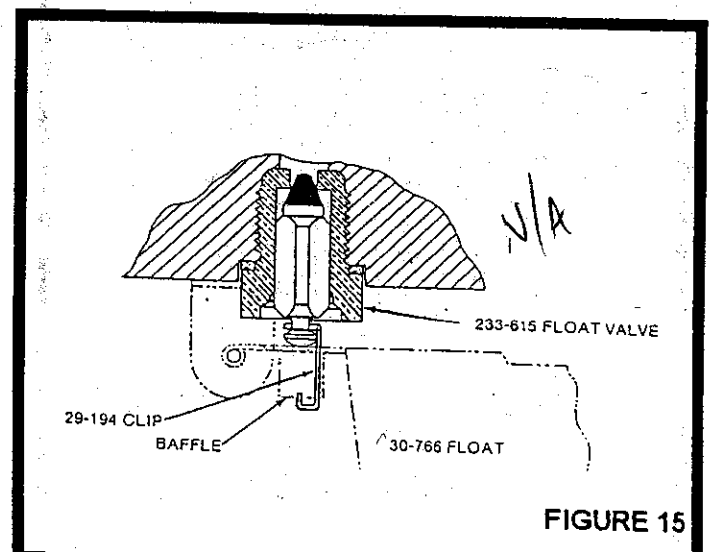

FIGURE 15
- 55) Place the float, valve, and clip assembly into the float bracket (64) with the valve (7) in the float valve seat (27) (Reference Figure 15).